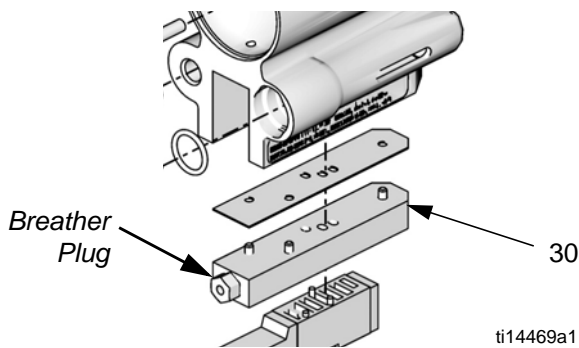

FIG. 18: Breather Plug
Remove and clean breather plug with compatible solvent. See materials of construction info in **Technical Data**, page 57. The breather plug is part of the solenoid manifold assembly (30). See FIG. 18. Use N-Methylpyrrolidone (NMP), Dynasolve CU-6, Dzolv, or an equivalent to soften cured material. Applying a light coat of lubricant will make future cleaning easier. Torque breather plug to 30-40 in-lb (3.89-4.82 N•m).